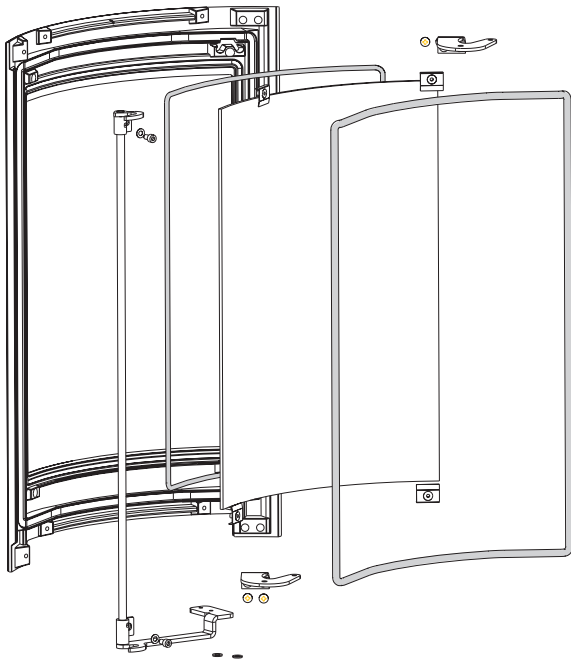

Figure 20. Glass and gasket replacement.
1. First loosen and then carefully remove the four glass clips from the inside of the door. See fig. 20.